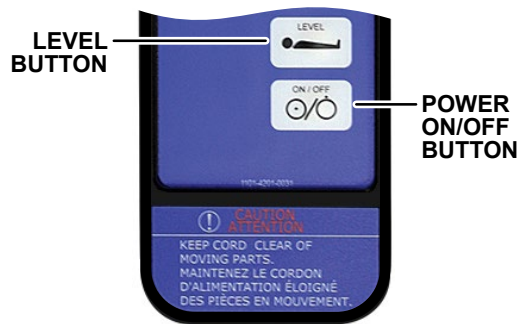

Figure 8. Level & Power On/Off Buttons
- c. Place the base power switch to the ON position, then press the power ON/OFF button at the lower right hand corner of the pendant control (Figure 8).
Switch the base power switch OFF and/or disconnect the power cord (Refer to Figure 8).
Press the power ON/OFF button at the lower right hand corner of the pendant control (Refer to Figure 8).